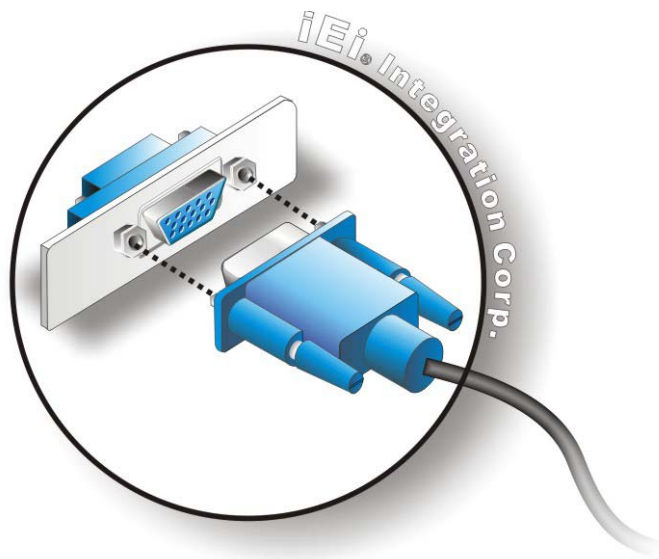

Figure 3-26: VGA Connector
- Step 3: Insert the VGA connector** Once the connectors are properly aligned with, insert the male connector from the VGA screen into the female connector on the TANK-820-H61. See **Figure 3-26**.